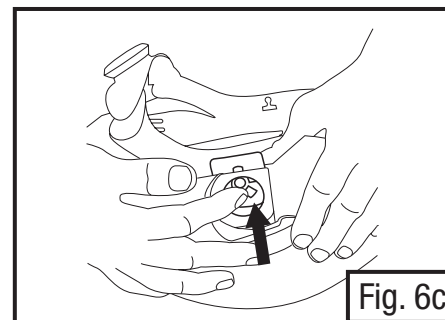

Fig. 6c
- o If replacing pivot kit, push back plate out from shell slightly (towards outside of headgear) and slide out from slot on headgear shell to remove. Use a tool if necessary (Fig. 6c).